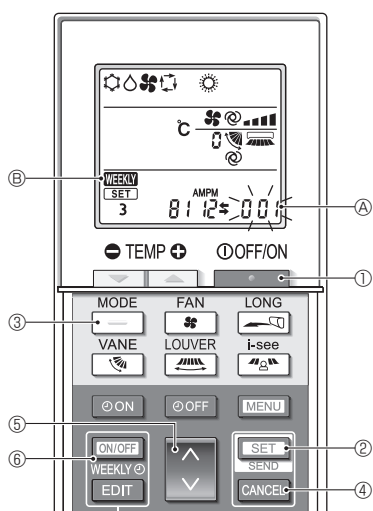

Fig. 5-12
5.10.8. How to disable Auto mode operation (Fig. 5-12)
- Press the **STOP** button ① to stop the air conditioner.
- If the weekly timer is enabled, press the **ON/OFF WEEKLY** button ⑥ to disable the timer. (**WEEKLY** ⑥ disappears.)
- Press the **SET** button ② for 5 seconds.
- The unit enters the function setting mode. (The group model setting number ④ blinks.)
- Press the **UP/DOWN** button ④.
- Completing the settings (Fig. 5-12)